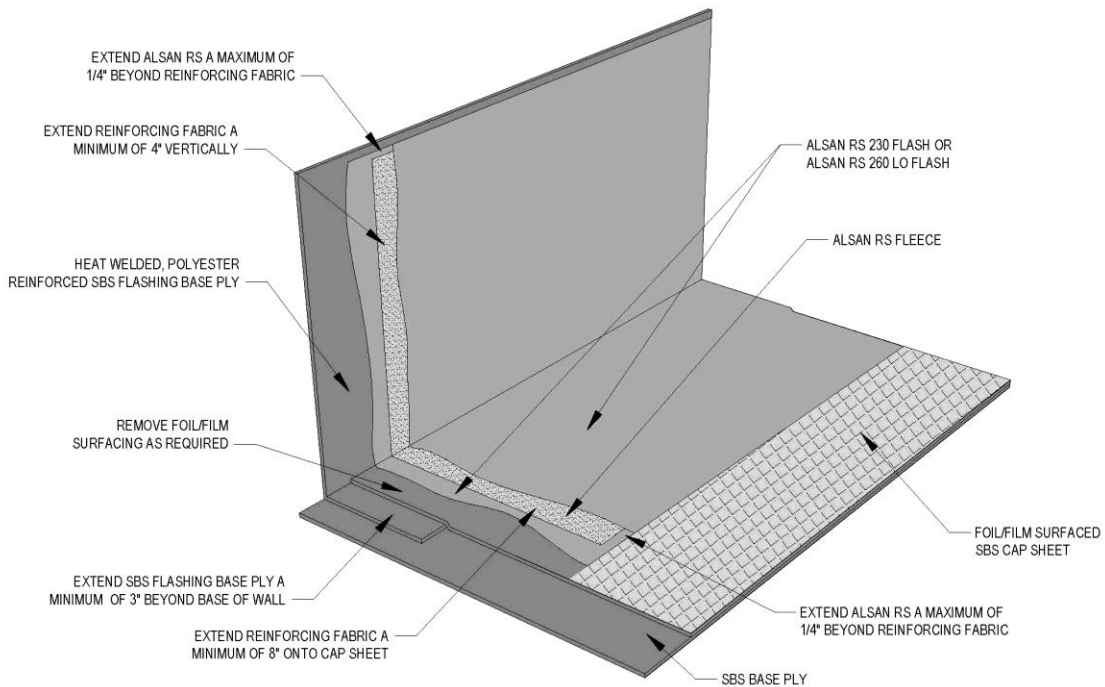

Figure 4.1b ALSAN® RS Wall/Curb Flashing with SBS Flashing Base Ply on Foil/Film Surfaced Cap Sheet Without Cant
- Remove foil/film surfacing prior to installing the ALSAN® RS roof system flashings on SOPRALAST™ cap sheets. Refer to Figures 4.1b, 4.1d, 4.1f, 4.1h, 4.1j, 4.1l, 4.1n, and 4.1p. Refer to Section 5.3.2 for removal of foil/film surfacing.